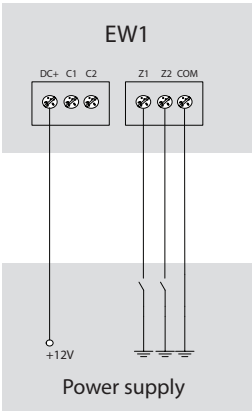

Fig. No. 2
- 2. Connect the circuit as indicated in Fig. No. 2